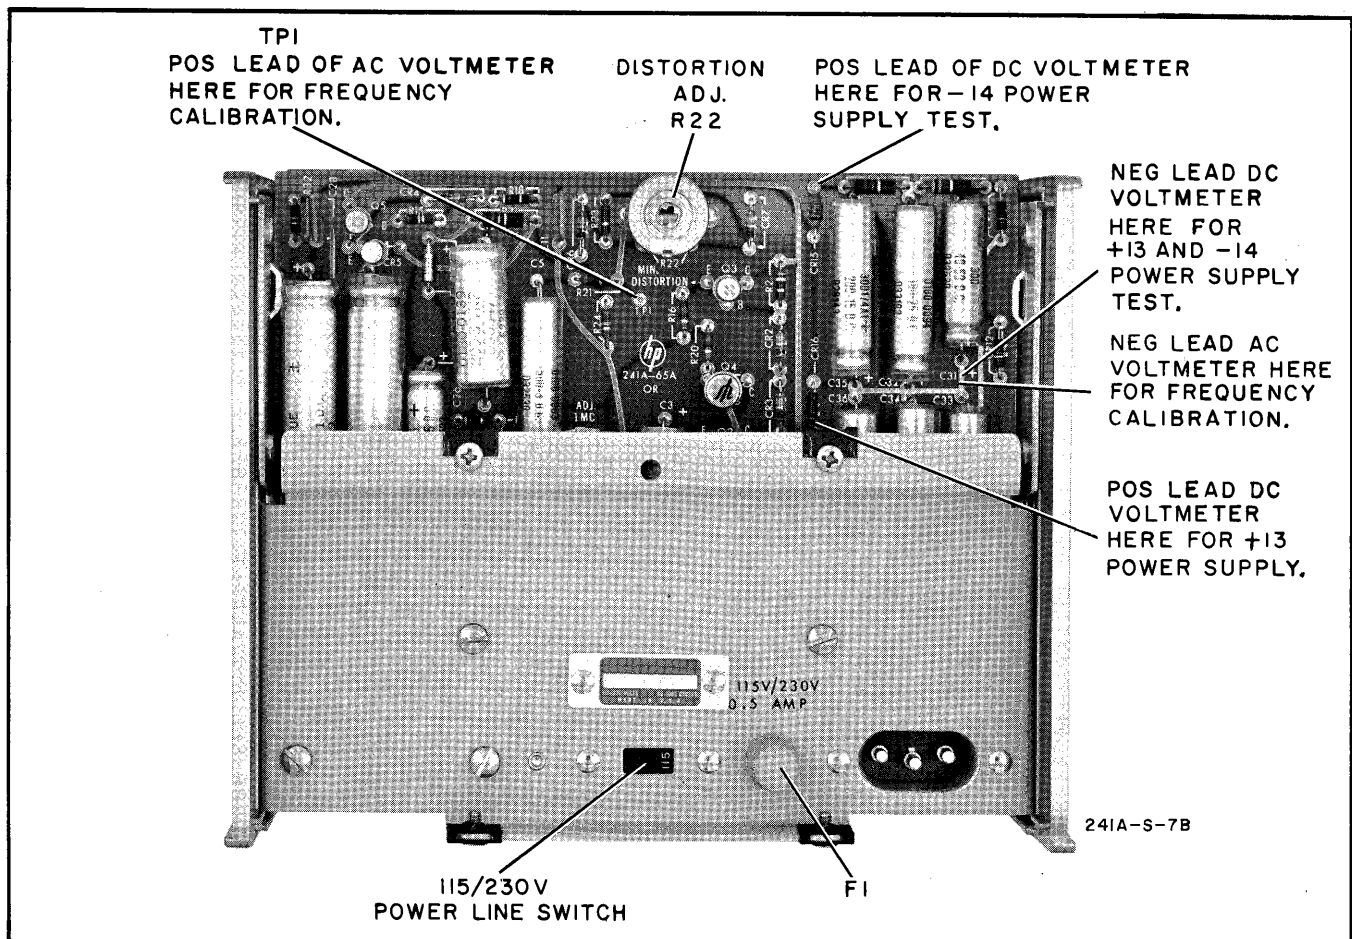

Figure 5-4. Rear View
- b. Measure +13 volt supply using a DC Voltmeter (\odot Model 412A); connect the common lead to the junction of C31, C32, and C33 and the volts probe to the cathode of CR16. (Refer to Figure 5-4.)
- f. Connect common lead of DC Voltmeter to the junction of C33 and C34, Volts probe to the anode of CR15 (see Figure 5-4).
- c. Connect common lead of an AC Voltmeter (\odot Model 400H) to the junction of C33 and C32, positive lead to Test Point TP1 (See Figure 5-4.)
- g. Adjust R22 (see Figure 5-4) for a minimum reading on the Distortion Analyzer.